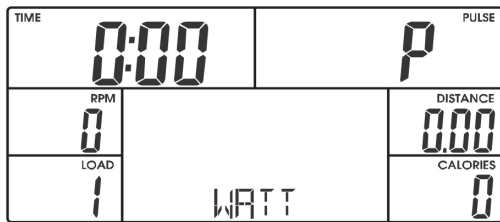

Figure 27
- (1) Hold RESET for three seconds, select the user and enter data. Alternatively press RESET to return to the main menu.
- (2) Select the WATT mode with +/- buttons and confirm with MODE (figure 27).